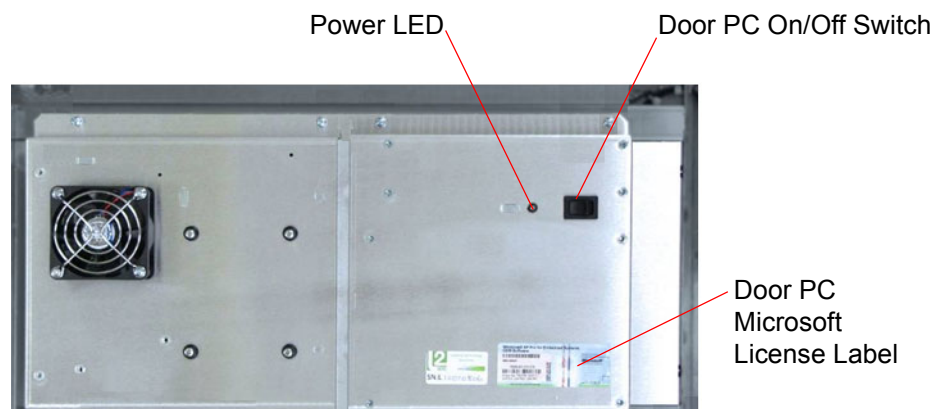

Figure 68 Door PC Rear
11. Power the Door PC on by pressing and releasing the On/Off switch on the rear of the Door PC (see Figure 68)